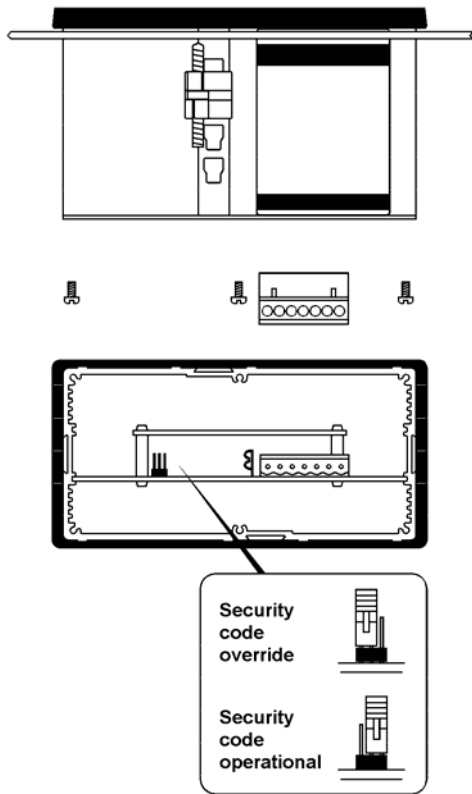

Fig 8 Location of security code override link
To gain access to the security code link, remove the instrument terminal block(s) by gently pulling. Remove the six screws securing the rear panel, and lift off the panel which will reveal the link - see Fig 8.
- Remove the rear terminal block(s) and the rear panel as shown in Fig 8.